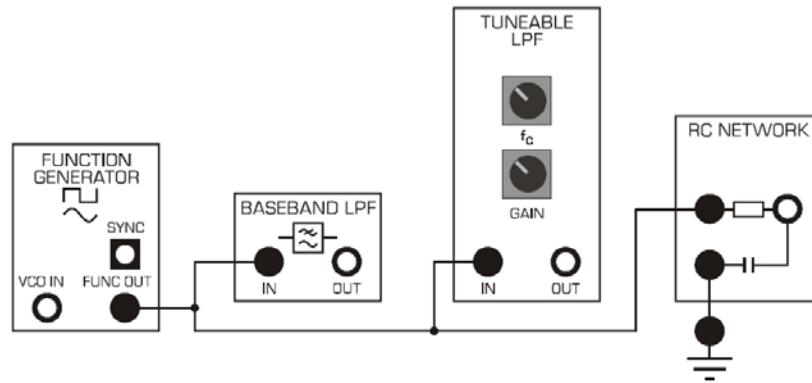

Figure 2-13 Diagram for investigating squarewave and sinewave frequency response
1. Measure the frequency response of BBLPF with a square wave. Use the set up in Figure 2-13. Use the square wave available at the FUNCTION GENERATOR block, FUNC OUT terminal, by selecting SQUAREWAVE output (this signal is a bipolar squarewave, as opposed to the TTL level squarewave available at the SYNC output). Explain your criterion for the amplitude measurement at the output (specifically, to deal with the shape changes and ringing oscillations). Enter your readings into Table 2-4.